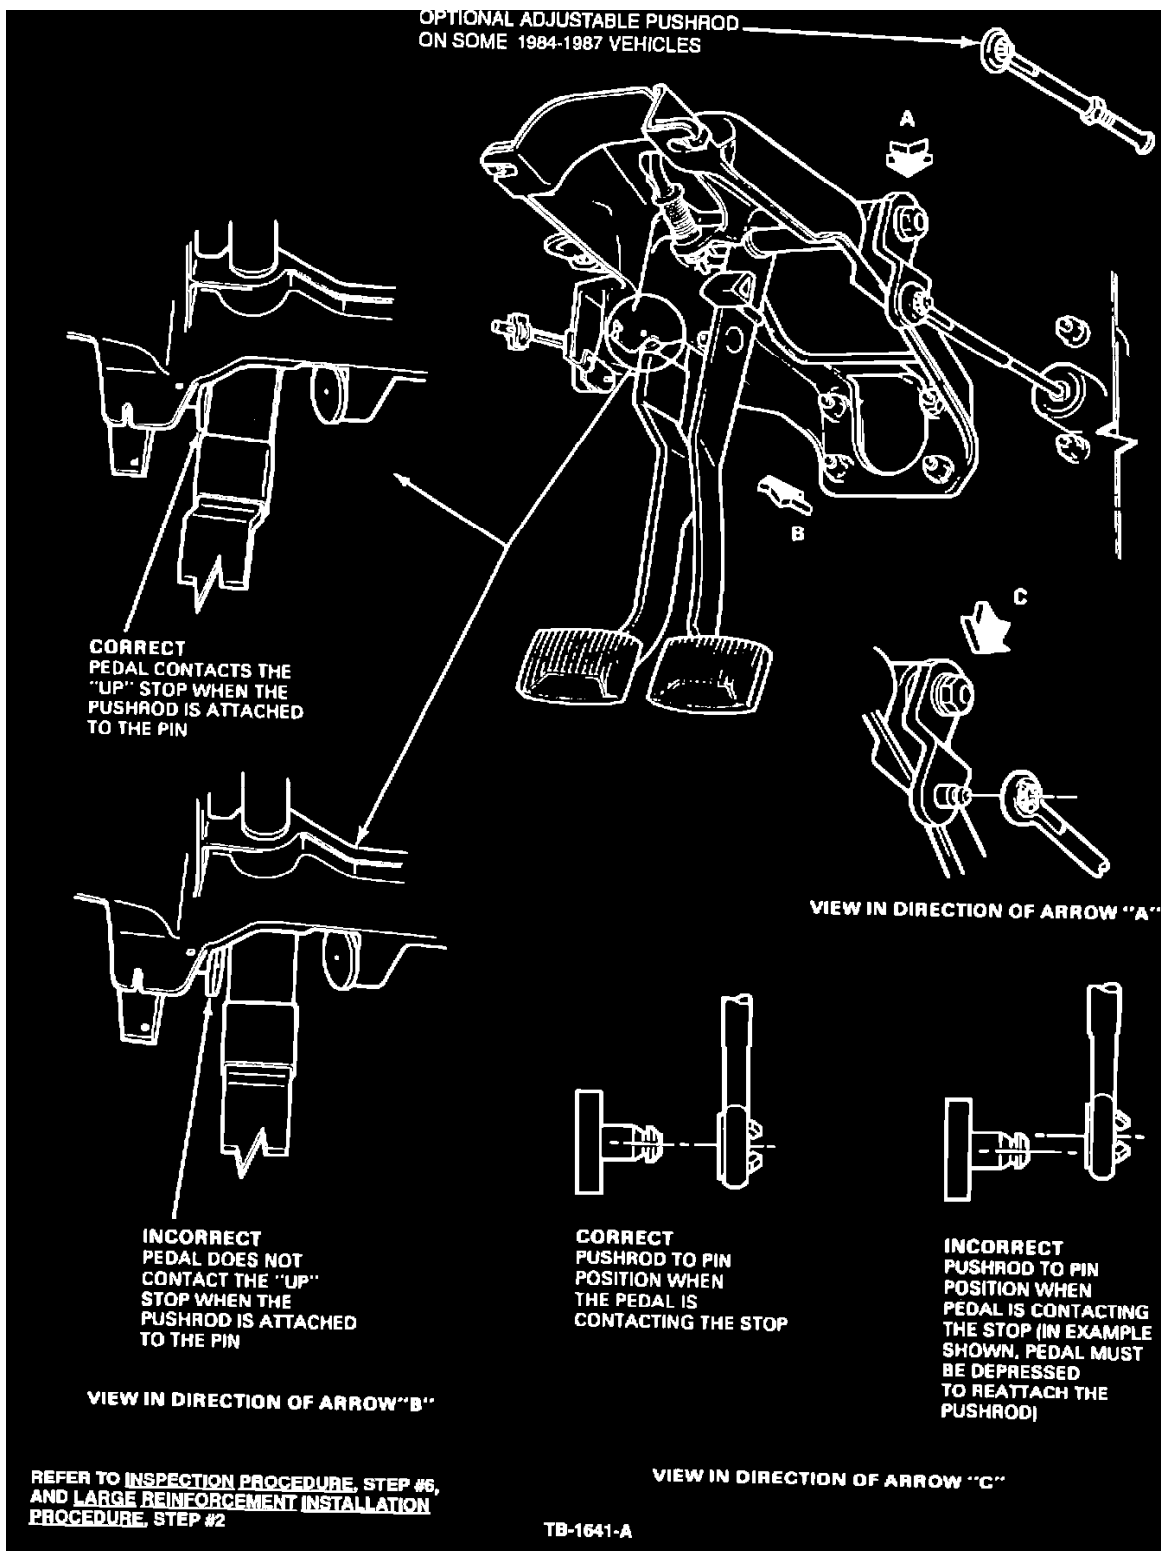

Figure 1
**NOTE:** THE NEW LEVER IS TIGHTENED INTO PLACE WHILE THE MASTER CYLINDER PUSHROD IS ATTACHED, TO SET THE CORRECT POSITION, FIGURE 1.
20. Remove the toe plate fastener from the bottom of the reinforcement and reinstall the steering column and five (5) fasteners.